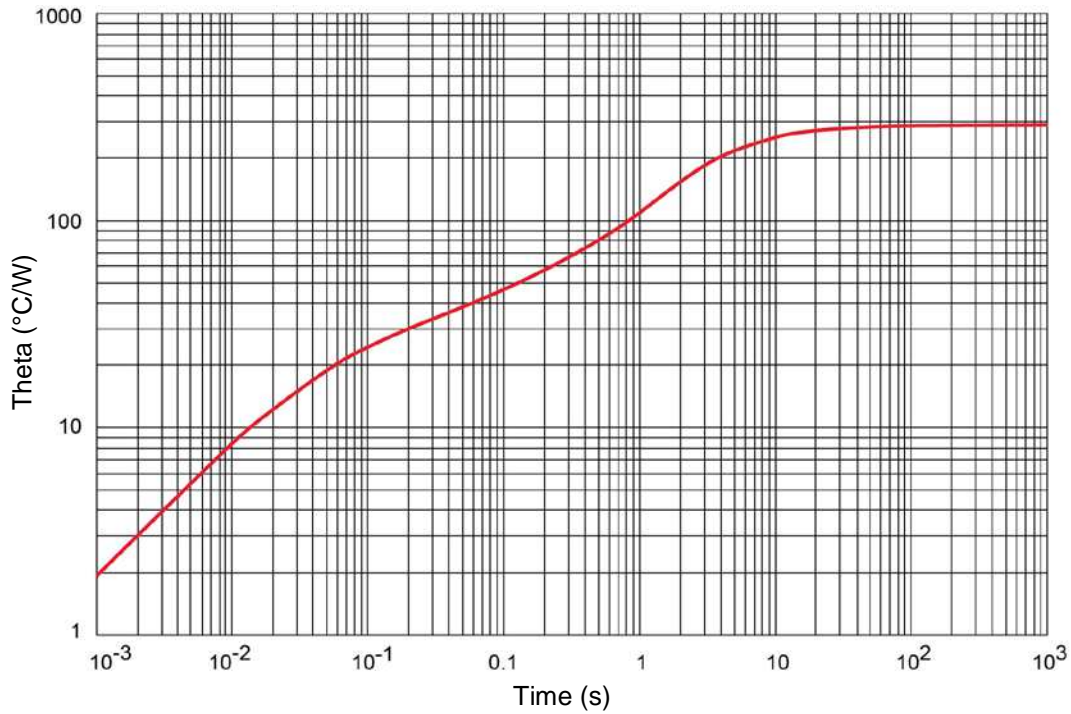

**FIGURE 1**
1. See figures 1 and 2 for derating curves.  $T_A = +75^{\circ}C$  on an FR4 PC board with 1 oz copper metalization.